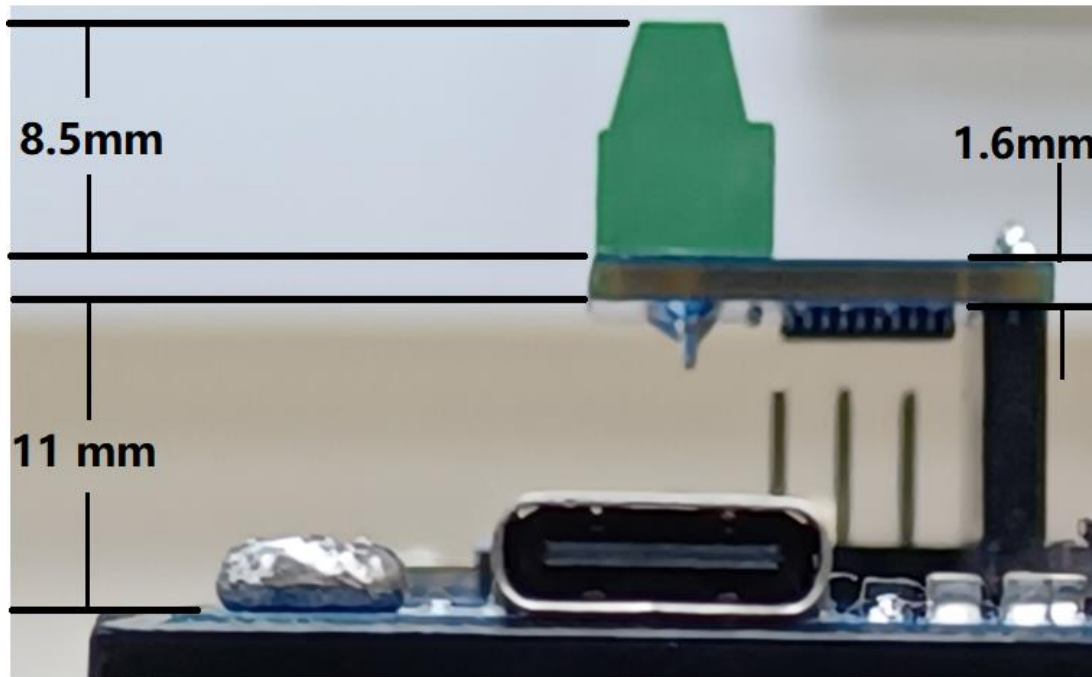

Figure 20 - Mating height between IDM2040-43A and IDM-RS232
- Connect the board to your computer and in Thonny go to Tools>Options and click on the interpreter tab. From the interpreter dropdown list select MicroPython (Raspberry Pi PICO). Choose port "USB Serial Device (COMX)". Figure 20 shows the MicroPython with Thonny in ready status.